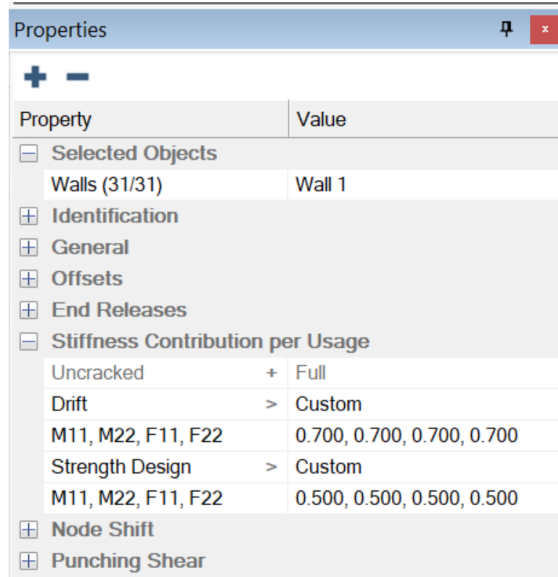
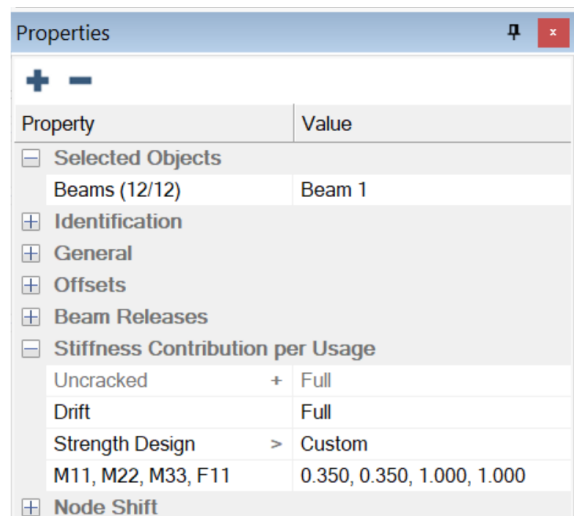

FIGURE 12-6
FIGURE 12-7
- Repeat these steps for the walls and beams. For the walls, we will set the stiffness modifier values as shown in **FIGURE 12-6**. For the beams, we will set the stiffness modifier values as shown in **FIGURE 12-7**.